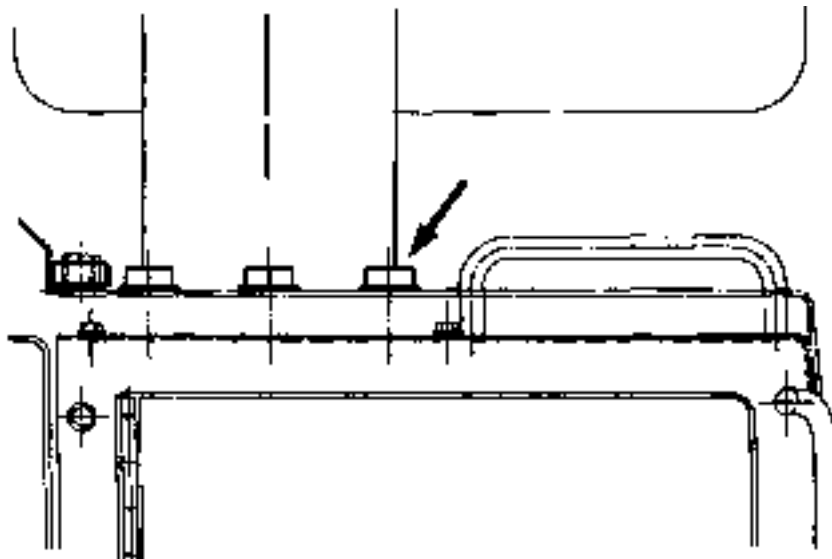

Fig. 5.57. ROPS Mounting Bolts
5.21.1. ROPS CAB/CANOPY AND MOUNTED EQUIPMENT MOUNTING HARDWARE (Fig. 5.57)